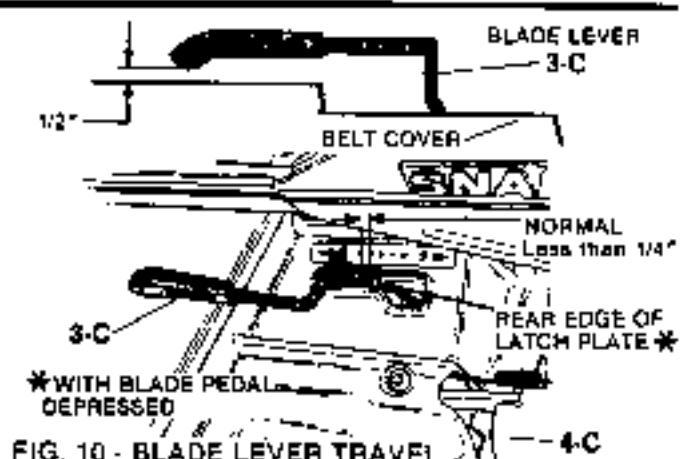

FIG. 10 - BLADE LEVER TRAVEL
**STEP 3:** Release the BLADE pedals to allow the BLADE lever to move to the OFF position. Then depress the BLADE pedals again and check the clearance between the forward edge of the BLADE lever and the rear edge of the latch plate. There should be less than  $\frac{1}{4}$ " clearance (see FIG. 10). Repeat the procedure in step 2 if needed, to obtain the correct clearance. Reinstall the BELT COVER.